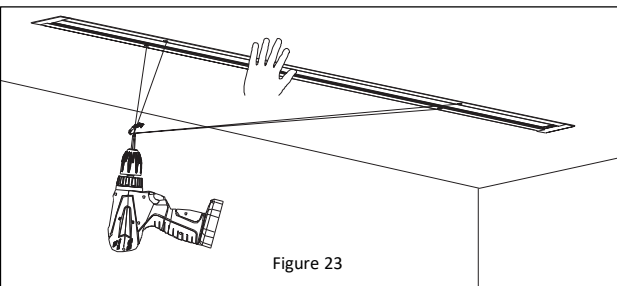

Figure 23
6. Slide the fixture into the slot on the ceiling and tighten the 4 screws until snug. *See Figure 23.*